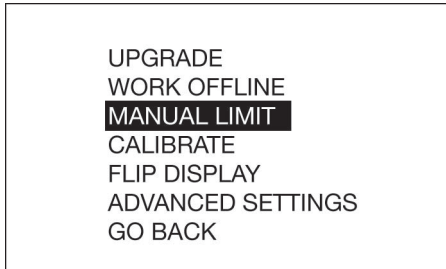

FIG. 48
- The Utility Menu is PIN or NFC Code protected. The Utility Menu code must be entered to activate the menu (FIG. 48).